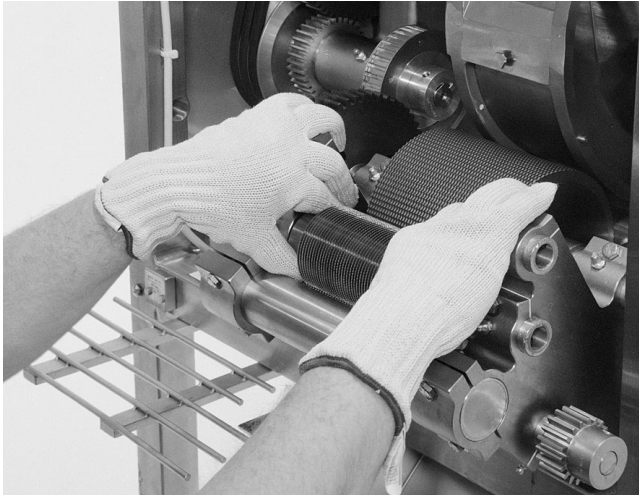

Figure 29 — Removing circular knife spindle
5. **Remove circular knife spindle.** Holding spindle by the ends, lift up from shear plate and remove from machine (Figure 29). Set aside on a surface that will not damage the knives, bracing it to prevent it from rolling.